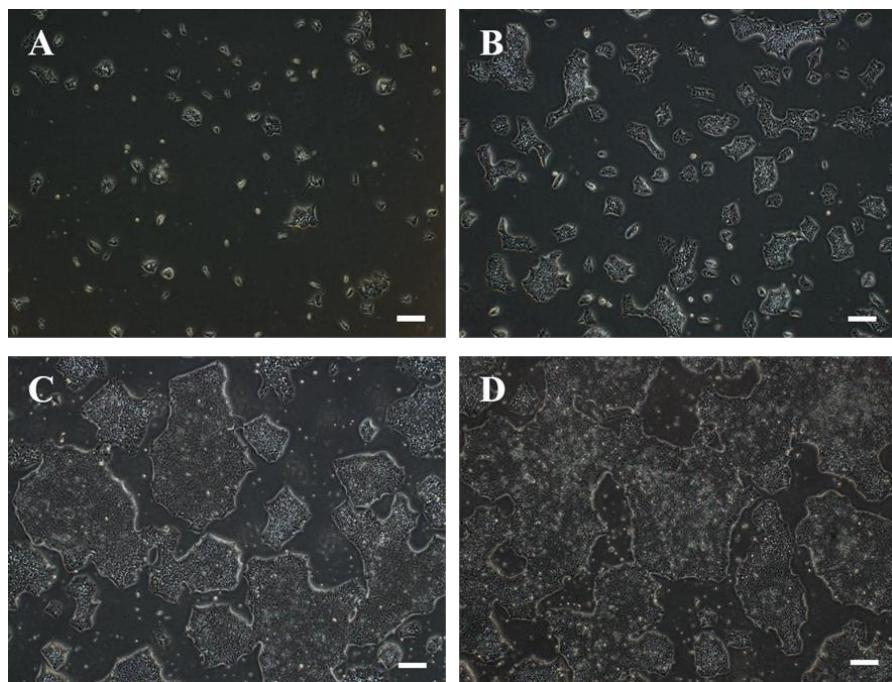

Figure 3: Morphology of hiPSCs cultured in NcEpic™ human pluripotent stem cell medium on a vitronectin Plate.
12. After 18–24 hours, replace with fresh **NcEpic™ Complete Medium**. Change the medium daily thereafter, followed by passaging or cryopreservation 4–5 days later. (Figure 3–4)